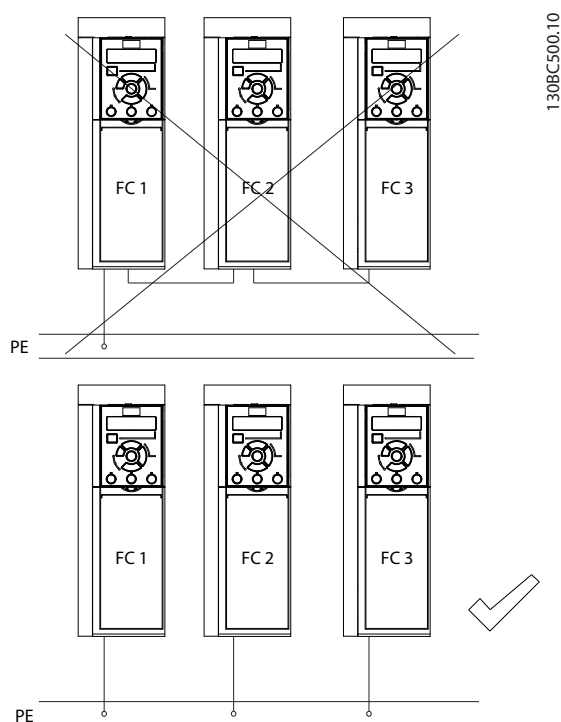

Figure 4.1 Grounding Principle
- Do not ground one adjustable frequency drive to another in a daisy-chain fashion (see *Figure 4.1*).